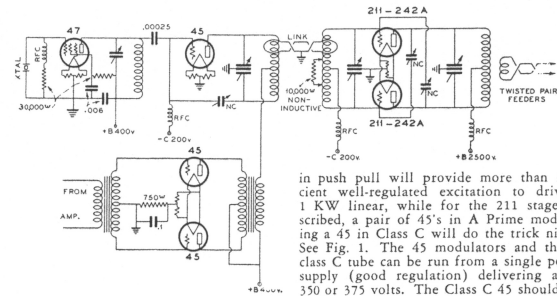

FIG. 2—250-Watt Carrier with Linear Amplifier
FIG. 2—Rear View of "Linear's" Transmitter. From Top to Bottom: (1) Final Amplifier, Monitor and Collins Coupler. (2) Oscillator and Buffer. (3) Speech and Modulators. (4) Power Supply Units